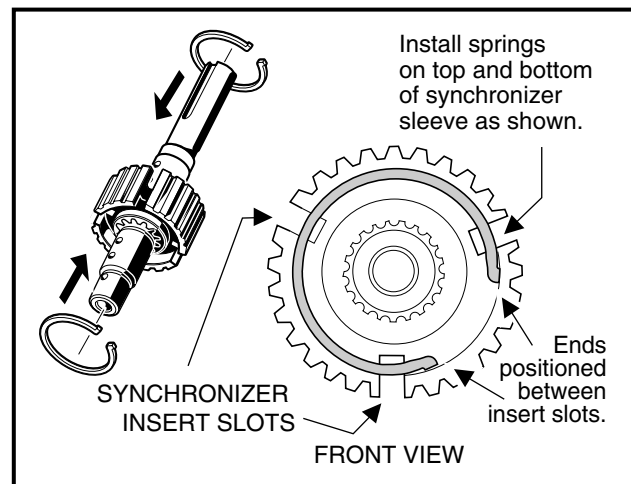

Figure 16b-65 Synchro. Springs
4. Install the synchronizer clutch hub (52) (**Figure 16b-50, Page 16b-23**) onto the synchronizer sleeve. Make sure the chamfered end of the hub is oriented toward the long end of the input shaft as shown (**Figure 16b-67, Page 16b-30**).